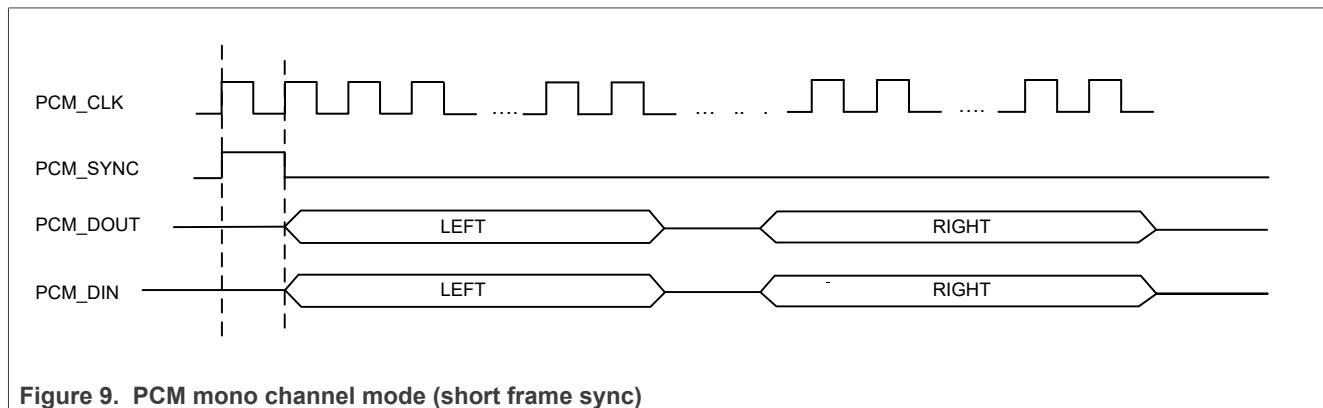
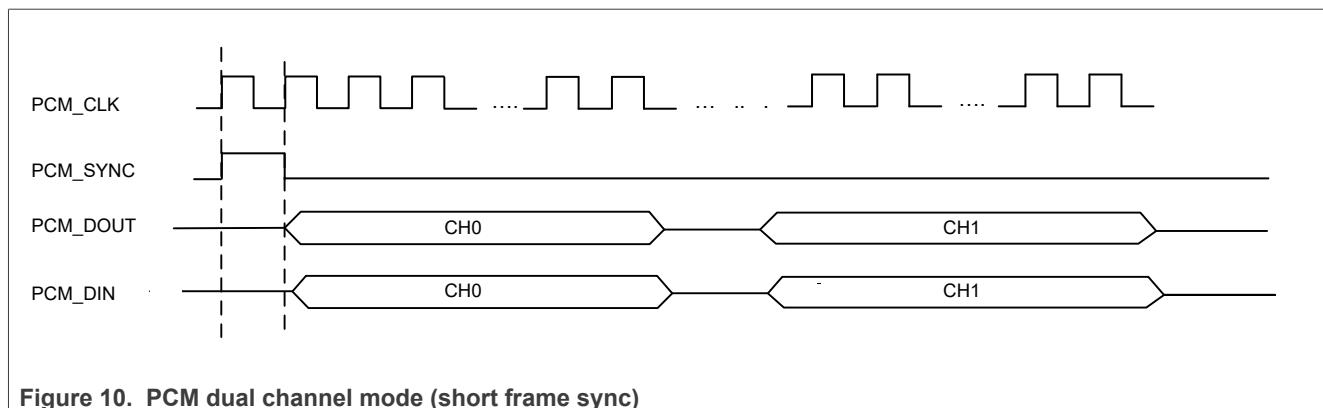

Figure 9. PCM mono channel mode (short frame sync)
Figure 10. PCM dual channel mode (short frame sync)
**Note:** Figure 9 and Figure 10 illustrate PCM mono and dual channel modes in short frame sync.